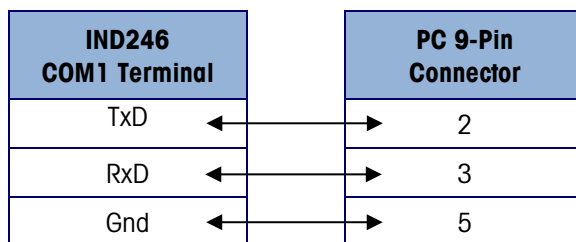

Figure 5-16: Serial Cable Wiring
5. Connect a serial cable configured as shown in Figure 5-16 from the PC to the terminal.